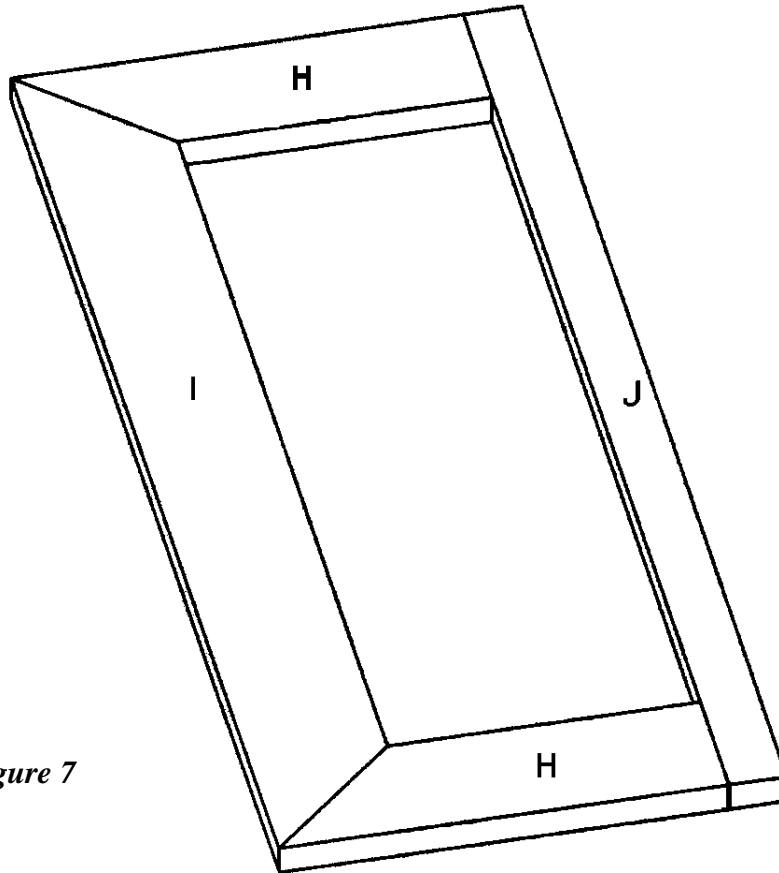

Figure 7
5. Cut four narrow side door trims (J) from 1 x 2 pine, each measuring 38 inches long.
6. Cut four door panels (K) from 1/4-inch plywood, measuring 14-3/4 x 34-1/2 inches.
7. Place two top/bottom door trims (H) face down, 31 inches apart, and parallel to each other. The miters should oppose each other, as shown in *Figure 7*.
8. Fit one side door trim (I) between the two top/bottom door trims (H), as shown in *Figure 7*.
9. Place one narrow door trim (J) against the flat ends of the two top/bottom door trims (H), as shown in *Figure 7*.
other. The miters should oppose each other, as shown in *Figure 7*.
8. Fit one wide side door trim (X) between the 2 top/bottom door trims (W), as shown in *Figure 7*.
10. Repeat Steps 7 through 9, using the remaining two top/bottom door trims (W), wide side door trim (X), and narrow side door trim (Y).
11. Center a door panel (X) over the assembly, as shown in *Figure 7*. There should be a 3/4-inch border of trim on all sides of the door panel (X). Apply glue to the meeting surfaces and nail through the door panel (X) into each of the four trim pieces (V and W) using 3/4-inch brads placed about every four inches.